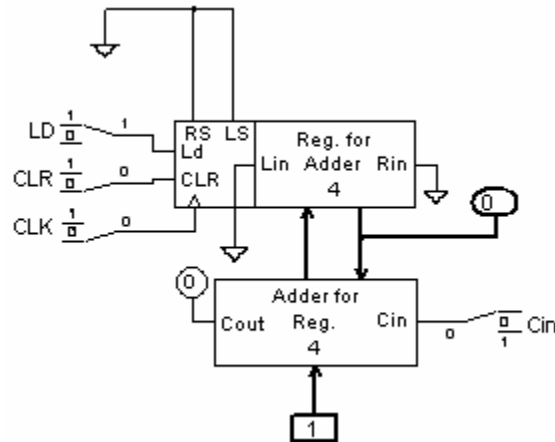

Figure 11. Bus Adder
- c. Connect the adder and register as shown in Fig. 11 using the wiring tool in the same way you use it to connect wires. The wiring tool can sense that you are connecting two busses, and will do this properly without you doing anything out of the ordinary.
- f. Now, select **Parts, N-bit parts, Bus Probe**. Connect the bus probe to the output of the Register for Adder as shown in Figure 11.
- g. Add a probe and switches as shown in Figure 11.